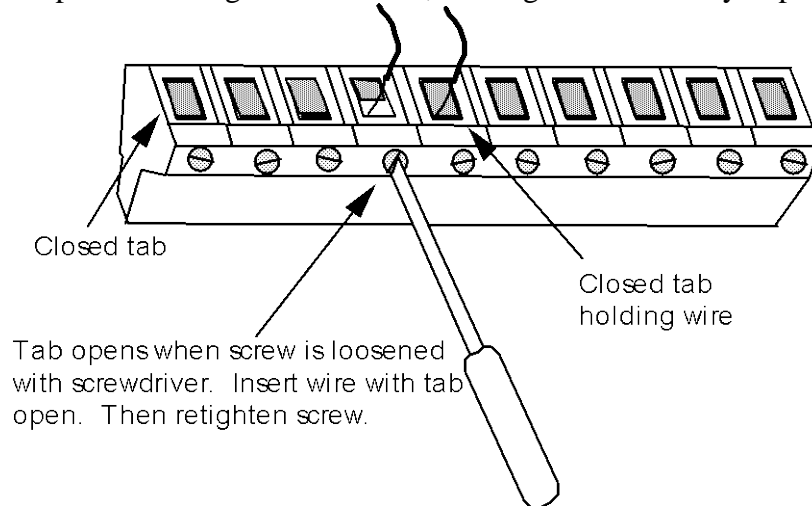

Figure 2-4. Attaching a wire to a connector
8. To connect a wire, loosen the screws that correspond to the appropriate terminal, so that the corresponding slot to the right will open. See Figure 2-4 earlier in this chapter. Insert the bare part of the wire 90% of the way into the open slot. Retighten the screw, holding the wire firmly in place.